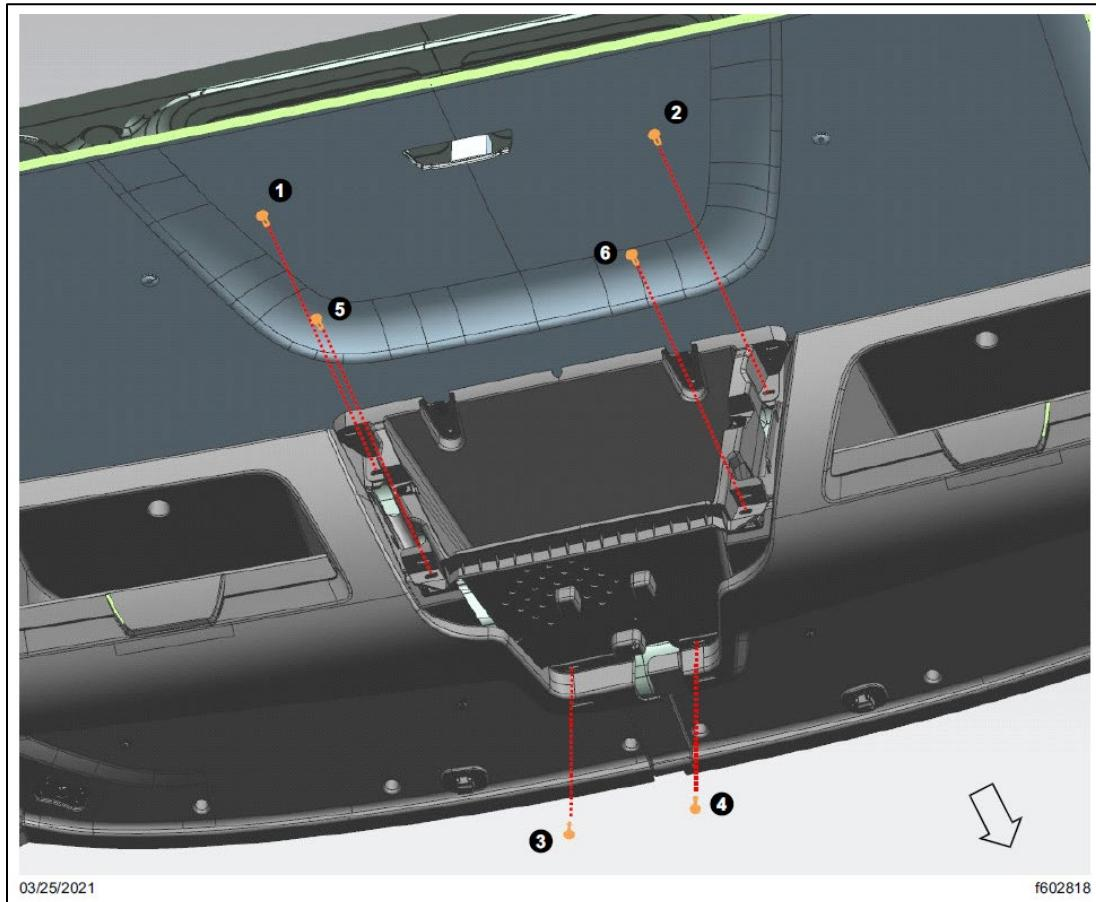

Fig. 27, Attach the Center Overhead Storage Bin to the LH and RH Side Storage Cabinets
7.2. Install the six fasteners that attach the center overhead storage bin to the LH side and RH side overhead storage assemblies. Tighten the fasteners 5 to 7 lbf.ft (6 to 9 N.m) as per the sequence shown in **Fig. 27**.